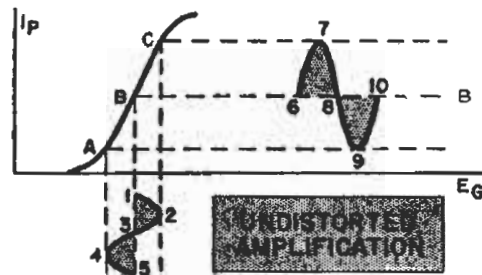
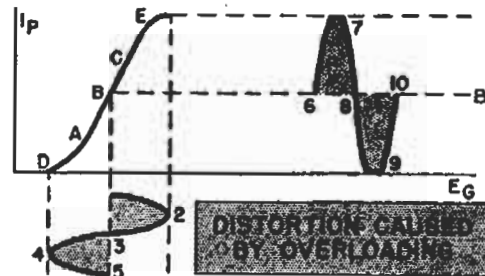
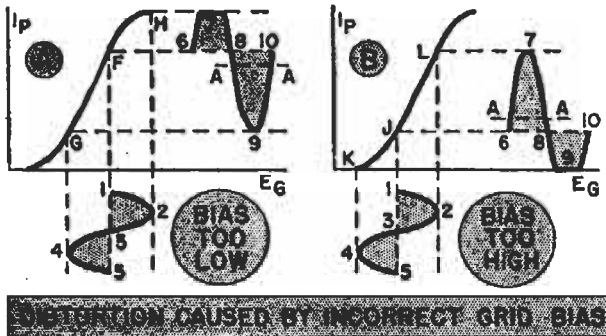
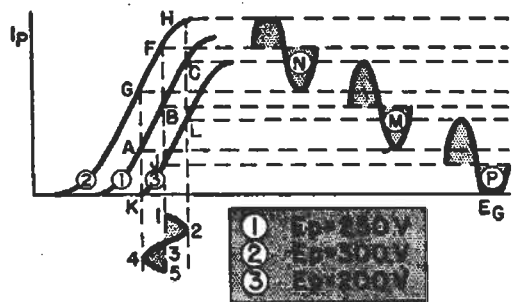

FIG. 2. The actual tube characteristic is never straight, but there is a center portion which will give relatively undistorted amplification.
FIG. 3. Too high an input signal swings the operation into the curved regions so distortion occurs.
FIG. 4. Even with a normal signal input, too high or too low bias will shift the operating point so distortion occurs.
FIG. 5. Incorrect plate voltage can also move the operating point to where distortion becomes excessive.
istic of a vacuum tube is never a straight line but is curved, as shown in Fig. 2. Part of the curve is sufficiently straight so that operation on it will not produce appreciable distortion. In Fig. 2 the applied grid signal 1-2-3-4-5 swings the plate current over the almost straight section A-B-C of the
Overloading Effects. Now suppose we have the same grid bias and plate voltage as for Fig. 2, but apply a larger signal to the grid so that we work into the upper and lower bends of the characteristic (Fig. 3). Here, the signal 1-2-3-4-5 swings the tube operation over range D-B-E, producing the out-
The output wave shape in Fig. 3 is still symmetrical, since the upper and lower halves are identical. As you
Bias Changes. Suppose that instead of overloading the stage with too much signal, we apply a normal signal and allow the bias voltage to shift. In Fig. 4A, the tube operating curve is the same as in Fig. 2, but the operating point is now point F. The bias voltage has been reduced, allowing a higher average plate current to flow.
Plate Voltage Changes. Distortion like that in Fig. 4 will also occur if the plate voltage changes and the grid bias remains fixed. Fig. 5 shows how.
Remember that changes in screen voltage will have much the same effect as improper plate voltage. The distortion shown in Fig. 5 will occur if screen grid voltage changes make the tube operate over a curved part of its characteristic curve.
In Fig. 2, the average of the plate current is the line $B-B$. When the signal is applied, the increase in plate current from 6 to 7 of Fig. 2 is equalled by the decrease from 8 to 9, so there is no change in the *average* value of the plate current. Thus, you should notice no change in the plate current when a signal voltage is applied to a class A stage.
In Fig. 3, the average plate current is the line $B-B$. Again the change from 6 to 7 is equal to the change from 8 to 9, so the average plate current will not change. Therefore, the plate current will not tell us when a stage is over-
loading, if the overload causes an output like that in Fig. 3.
In Fig. 3, we chose an operating point exactly at the middle of the curve. If the actual operating point is higher or lower on the curve, an overloaded input will cause unequal half cycles and, again, a plate current shift. The direction of the shift depends upon whether we are higher or lower on the curve, as in Fig. 4.
Then on strong signals, the sensitivity of the r.f. section of the receiver will not be reduced by the a.v.c., so the signal voltage developed across the secondary of i.f. transformer T will become considerably greater than the d.c. bias across resistor R . This will allow the tube to operate on both the bends of its characteristic (as in Fig. 3), so both positive and negative signal peaks will be distorted just as if a distorted a.f. signal had been modulated on the carrier at the transmitter. This distorted signal will pass through the second i.f. transformer T_1 , be rectified by the diode detector, and ultimately produce a distorted loudspeaker output. The following resonant circuits cannot correct for this as *both halves of the wave have been affected instead of just one half*.
► As another example, suppose there is no voltage across resistor 46, and the grid-cathode voltage of the 75 tube is normal as measured across resistor 61, yet distortion clears up when you touch the top cap of the 75 tube and the chassis. This, you have learned, shows excess bias—even though the bias appears to be correct. But remember, Fig. 5 showed that the correct bias depends on the plate voltage. Evidently, then, the plate voltage has decreased, so what appears to be a correct bias is actually excessive.